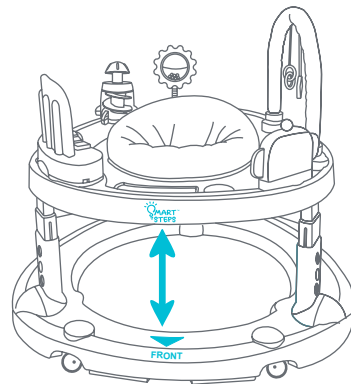

Fig. 9a
- Ensure the seat is aligned with the front tray and front of the base (Fig. 9a).